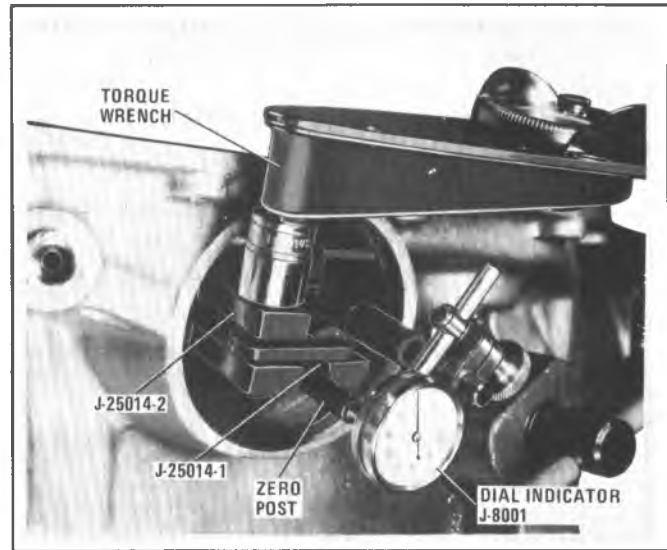

Figure 7A6-220 Intermediate Band Apply Pin Tools
b. Install pin J-25014-1 into J-25014-2 (Figure 7A6-221).
c. Install dial indicator J-8001 and position dial indicator point (Figure 7A6-220) on top of J-25014-2, zero post and set dial indicator to zero.